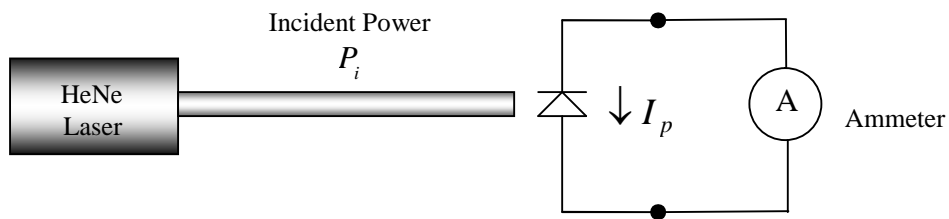

Figure 5: Setup Used for Measuring the Power Emitted by a HeNe Laser Source.
- 1- Connect the circuit shown in Figure 5.